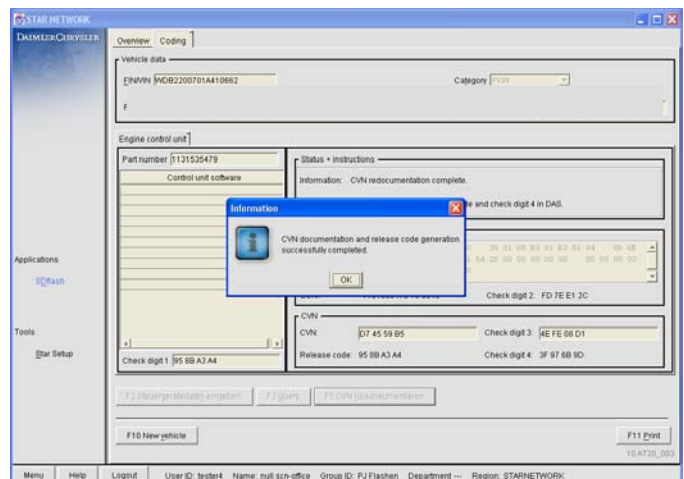

Figure 10
3. Click the 'OK' Button. The Release Code and Check Digit [4] will be displayed. (Figure 10)
4. Press 'F11 Print' Button to Print the Release Code and Check Digit [4]. (Figure 10)